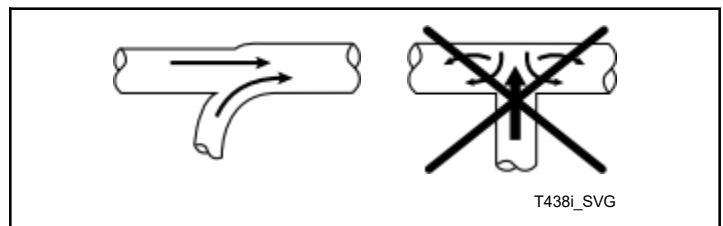

Figure 15
**NOTE: Never connect a tumble dryer duct at a 90° angle to the collector duct. Refer to *Figure 15*. Doing so will cause excessive back pressure, resulting in poor performance. Never connect two tumble dryer exhaust ducts directly across from each other at the point of entry to the collector duct.**